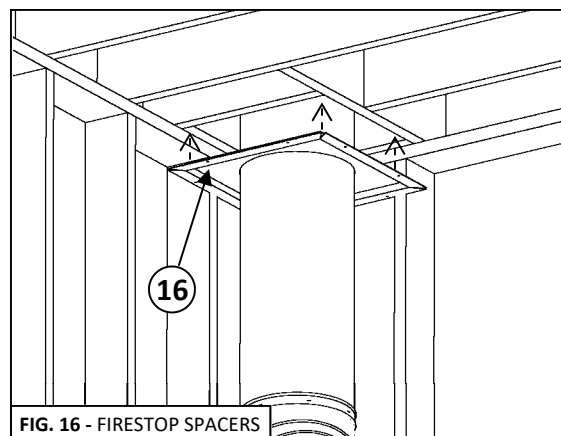

FIG. 16 - FIRESTOP SPACERS
15) STRAIGHT CHIMNEY SECTIONS – Before running the straight chimney through the roof, slide the Firestop Spacer (shown in FIG. 16) over the Return Elbow. Now, snap the remaining Straight Chimney sections into place.